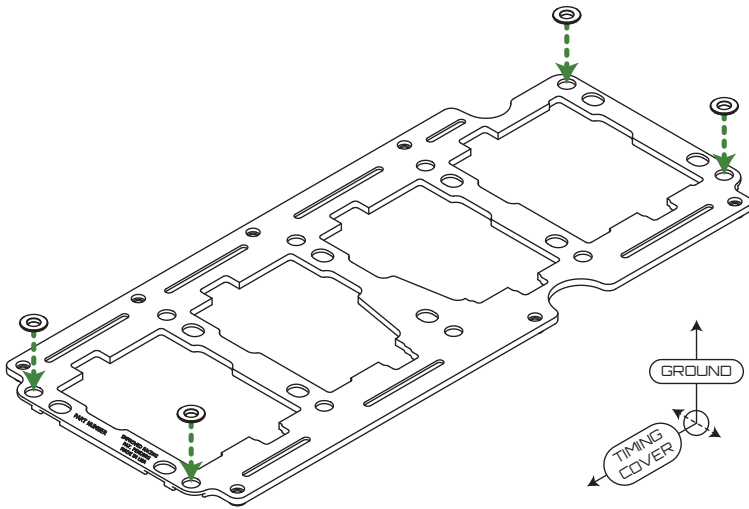

Figure 3 - Inserting the Reducer Bushings for Factory Main Studs
6. If using the factory main cap hardware, insert the four HSP-1009 reducer bushings as shown in Figure 3 prior to securing the scraper to the engine.